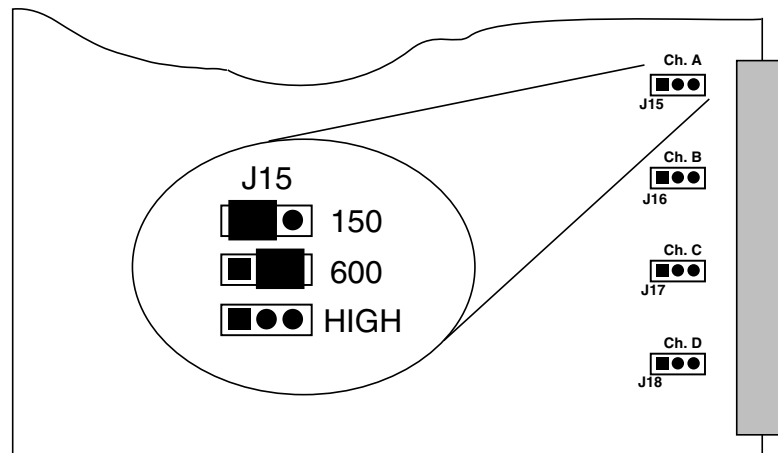

Figure 2-58. Combined Video/Audio Impedance Jumper Locations
1. Remove the Video/Audio Input module from the frame, and place on a flat, level, static-free surface with the module orientation as shown in Figure 2-58.